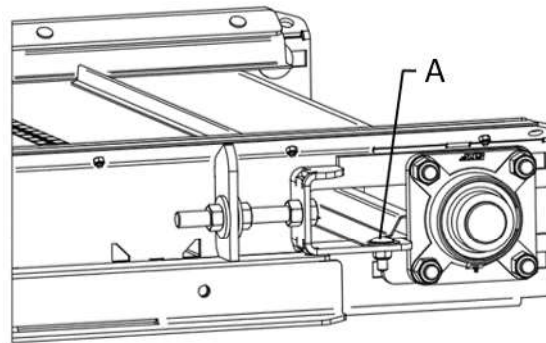

Figure 62 — Adjusting the Conveyor Scraper
1. Loosen the bolts on each side of the conveyor (Figure 62, A).
3. Tighten the bolts (Figure 62, A).